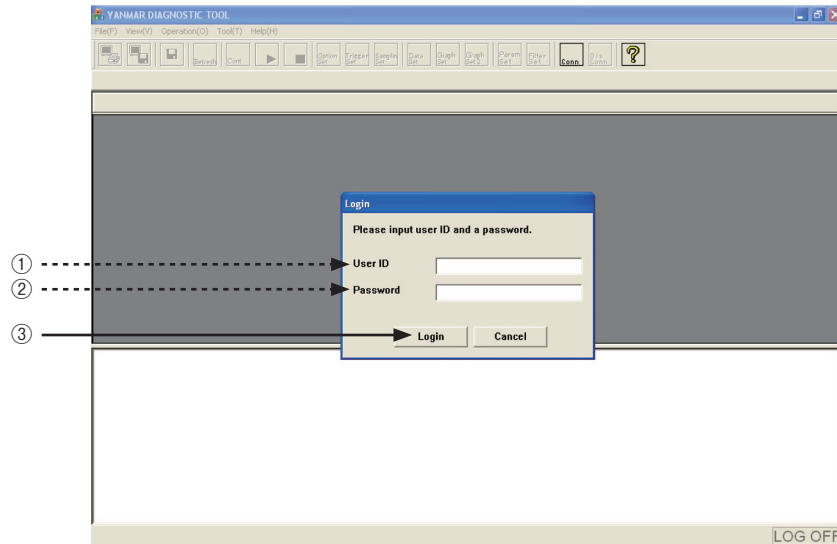

Figure 5-2 Screen to Enter a User ID and Password
- ① **User ID** : Enter a name to identify the user.
- ② **Password** : Enter a password.
- ③ **[Reinput]** : Enter the password you entered in ② again for confirmation.
- ④ **Authority** : Select an authority level. Select **Mechanic** in your first session.
- ⑤ **Explanation** : Enter a comment as necessary. You can omit it.
- ⑥ Click the **OK** button to set the entries. The screen to enter a password as shown in Figure 5-2 appears.
The entry screen as shown in Figure 5-2 appears after the registration in the first session and in second and later sessions.